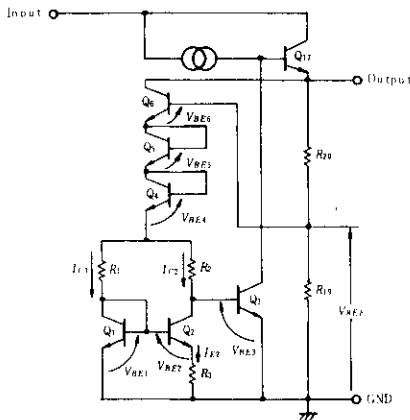

Fig.3 Circuit Generating Reference Voltage
For exemplaining the part generating the reference voltage, the equivalent circuit shall be shown in Fig. 3. As this figure shows clearly, the difference from the conventional method using zener diodes is that the reference voltage is generated by only the base-emitter forward characteristics of transistors. The reference voltage VREF is;
In equation (6), the first four terms in the right to equal sign are V_{BE} and have negative temperature coefficient. On the other hand, the last term has positive temperature coefficient. Then, give value to R_1 , R_2 and R_3 so that $V_{REF} \cong 5V_8 V_{REF}/\delta T = 0$. This reference voltage source which utilize the base-emitter forward voltage of transistors has less noise than the conventional ones using zener diodes. The output voltage is as shown in Fig. 3;